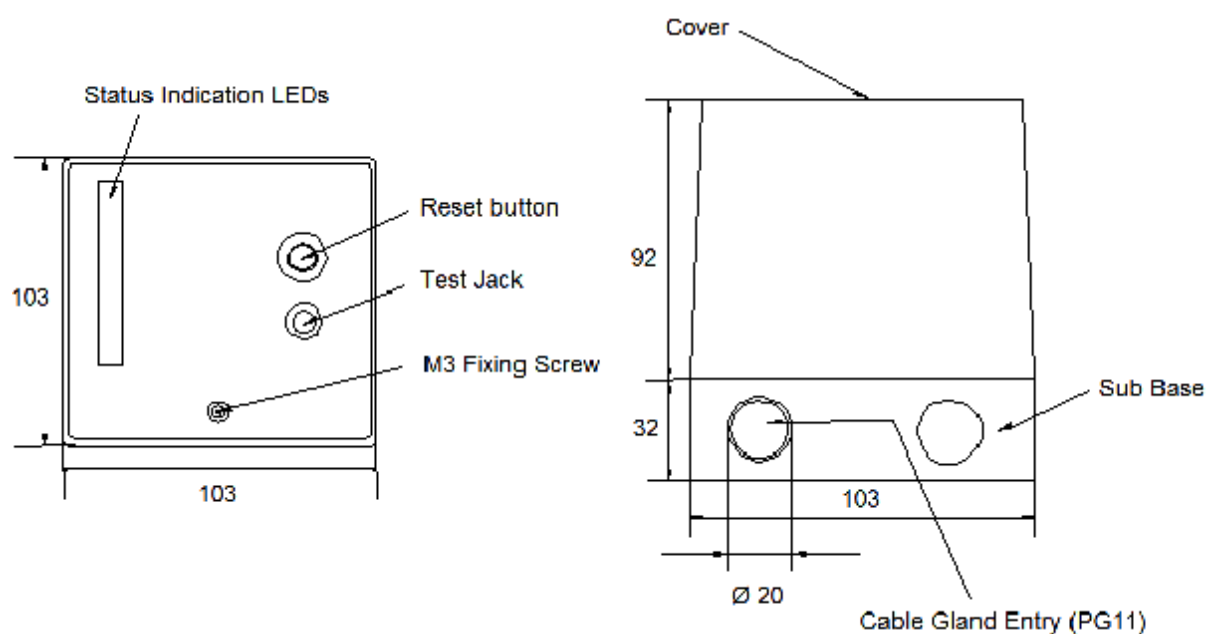

Fig. 1: External Dimensions (in mm)
1. Loosen the M3 fixing screw as shown in Fig. 1 by about eight turns using a Philips head screwdriver.
3. Punch out the needed conduit knockout holes for the wiring as shown in Figs 1 and 2, and install the wiring conduit(s).